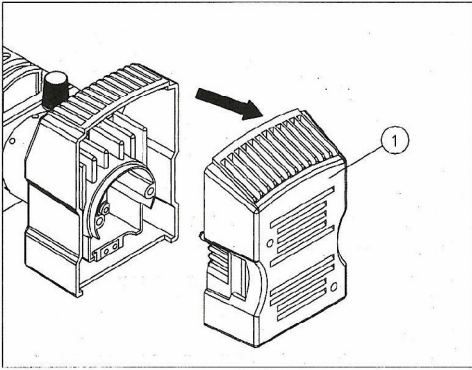

Fig.14
1. Pull out the lamp-house① as the picture show (Fig.14)